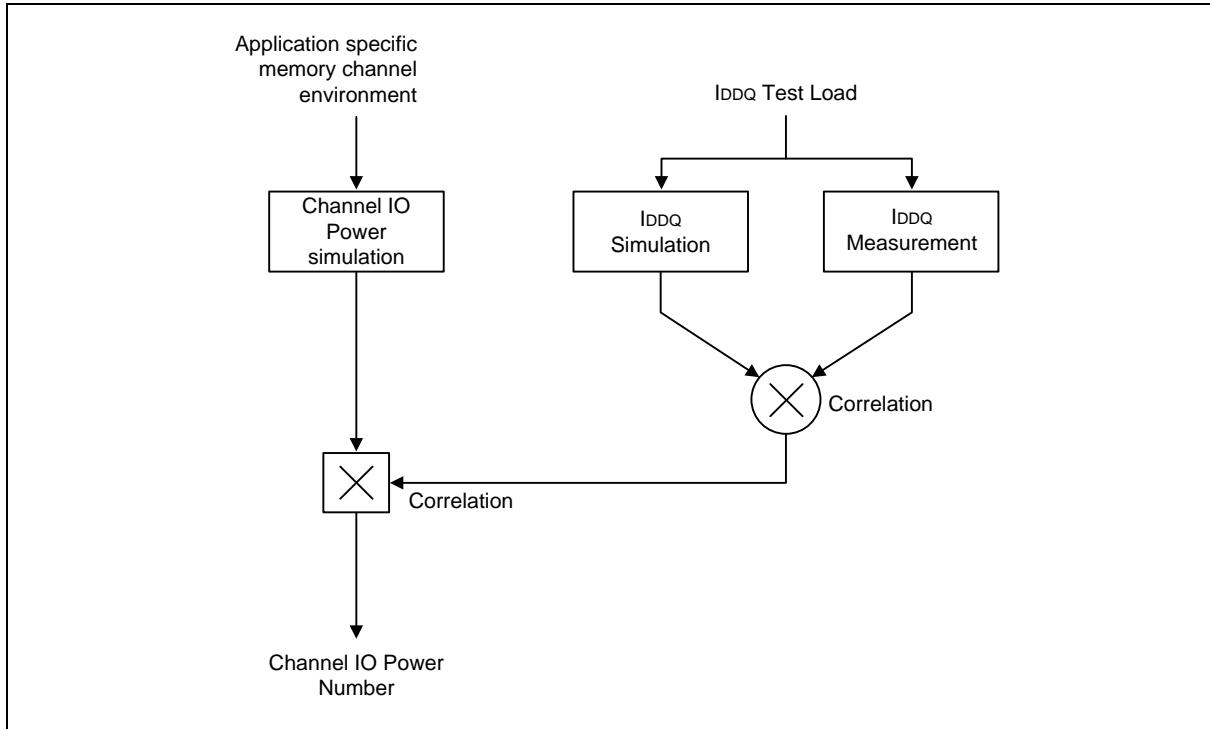

Figure 106 – Correlation from simulated Channel IO Power to actual Channel IO Power supported by IDDQ Measurement
- Attention: IDDQ values cannot be directly used to calculate IO power of the DDR3L SDRAM. They can be used to support correlation of simulated IO power to actual IO power as outlined in Figure 106. In DRAM module application, IDDQ cannot be measured separately since VDD and VDDQ are using one merged-power layer in Module PCB.**